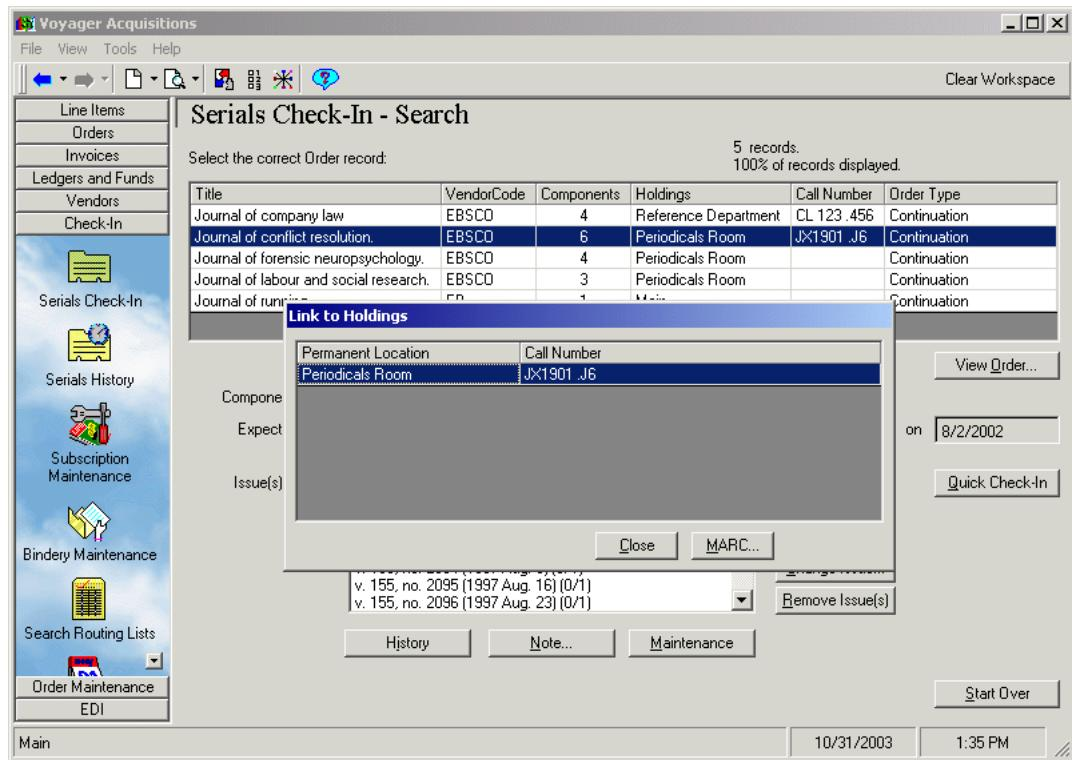

Figure 13-12. Serials Check-In work space - ellipsis displayed in the Holdings column of the list of records
- Clicking the Holdings column of the list of records that displays after searching for records in **Serials Check-In** displays the **Link to Holdings** dialog box with the MARC button (see Figure 13-12). See Checking In Serials on page 9-4.